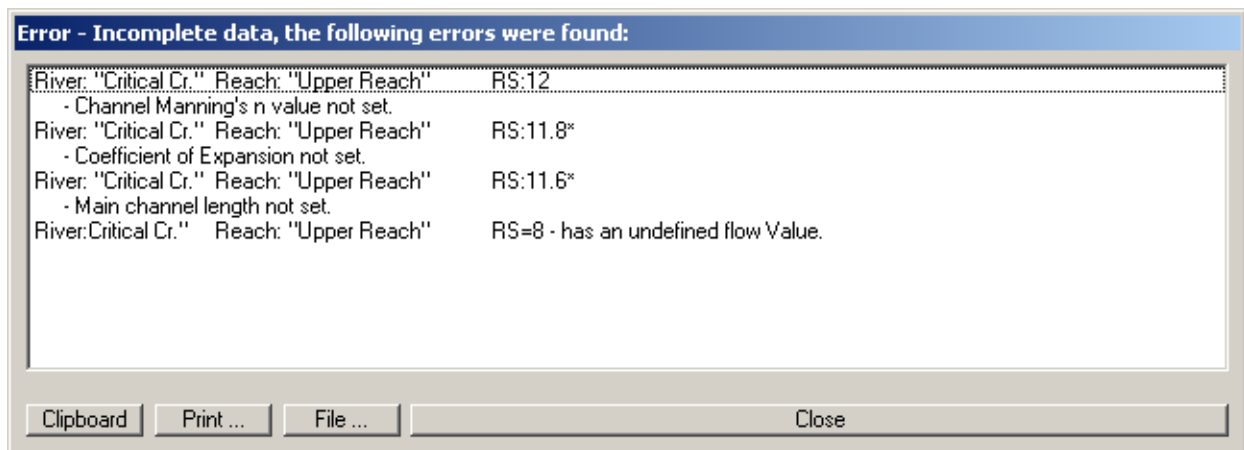

Figure 11.1 Data Completeness Checking Window
1. Data completeness. These data checks insure that all of the required data exists for the entire data set. If any missing data are found, a complete list of all the missing data and their specific locations is displayed on the screen. An example of this is shown in Figure 11.1.